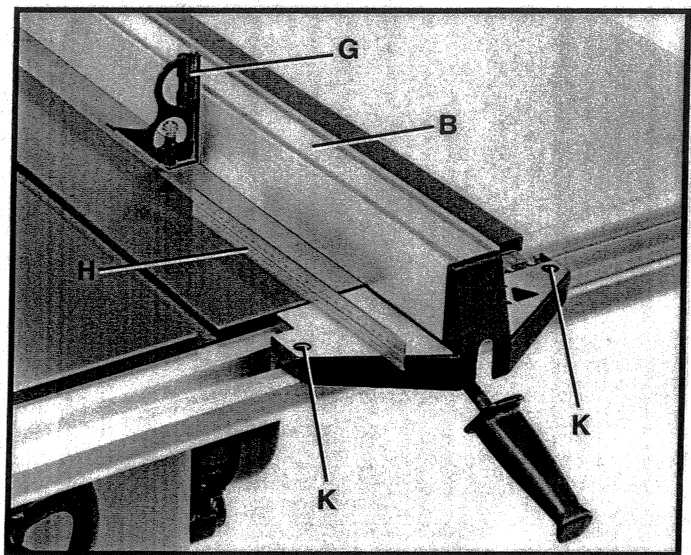

Fig. 70
4. Using a square (G) Fig. 70, and a straight edge (H), check to see if the rip fence (B) is perpendicular to the saw table and that the rip fence body is level with the saw table. If an adjustment is necessary, tighten or loosen either of two screws (K), until the fence is perpendicular and level with the saw table.